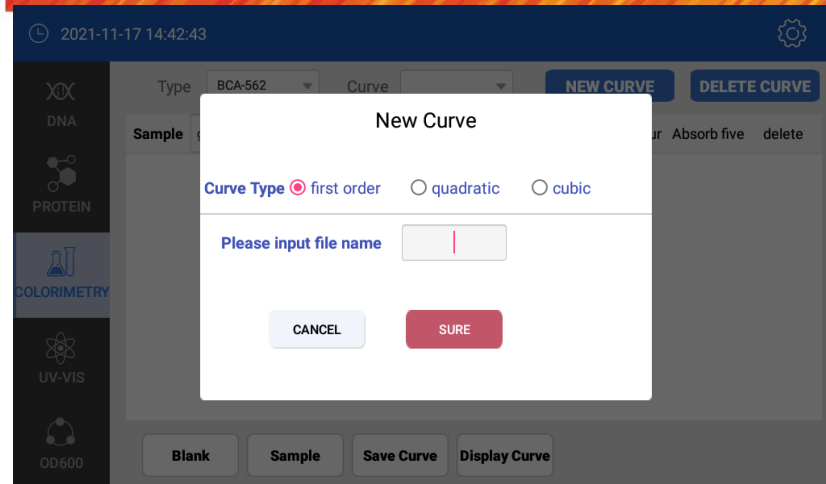

Fig. 5.3 New Curve of Colorimetry
② Click  , Choose unit for standard sample, input standard sample concentration
③ Click the standard sample name (as Fig 5.3) to choose one standard sample, which will be back-ground-colored blue. According to blank, sample detection order to get the sample Abs. Same method for other samples.